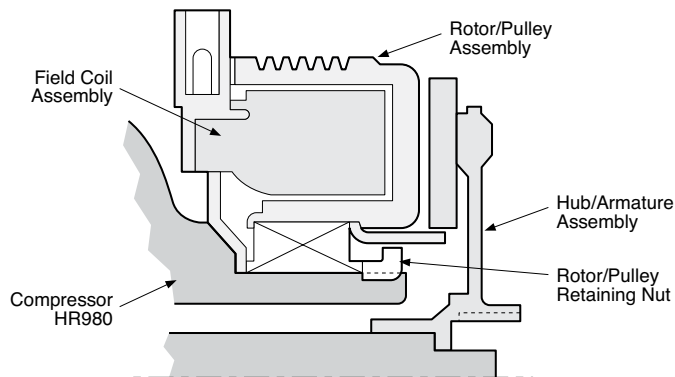

Figure 6
Step 2B: Installing the Field Coil (2) and Rotor/Pulley Assembly (4) (HR980 Compressor only)
- A. Align square holes in the back plate of the coil assembly (2) with lugs on the compressor (1) housing.
- B. With the field coil (2) in position, slide the rotor/pulley (4) onto the compressor until it butts against the field coil (2). (See Figure 6) If the rotor/pulley does not slide on easily, check the mounting surface on the compressor nose for nicks or burrs and remove them. If the rotor/pulley still does not slide on easily, rock the rotor/pulley back and forth by hand until it slides completely onto the compressor.
- C. Install the rotor/pulley retainer nut (6) with flange notches facing **AWAY** from the rotor/pulley assembly. Tighten the retainer nut to 65 to 75 lb.ft. torque.